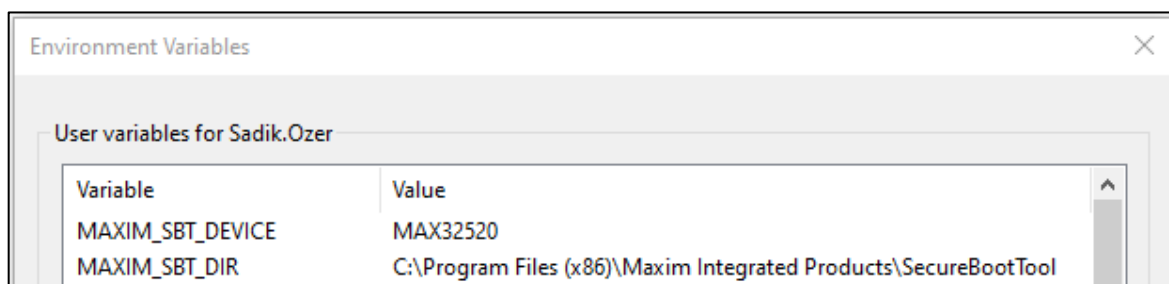

Figure 10. Required SBT system variables.
- Adds MAXIM_SBT_DIR and MAXIM_SBT_DEVICE in system variable (as shown in **Figure 10**).